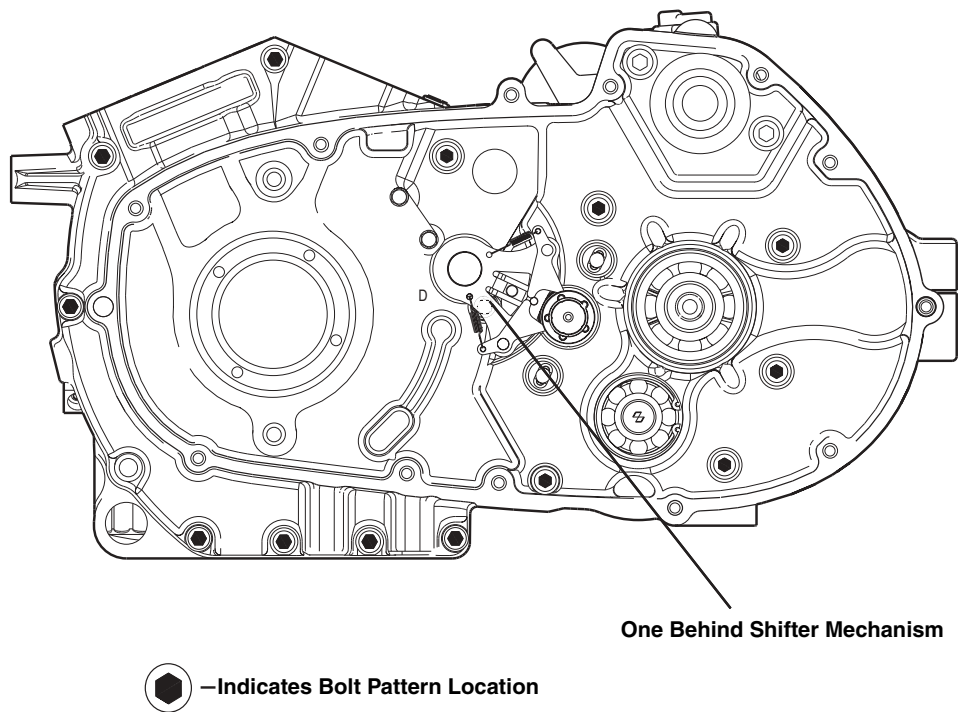

Figure 3-154. Crankcase Fasteners
7. See Figure 3-154. Assemble crankcase halves together.